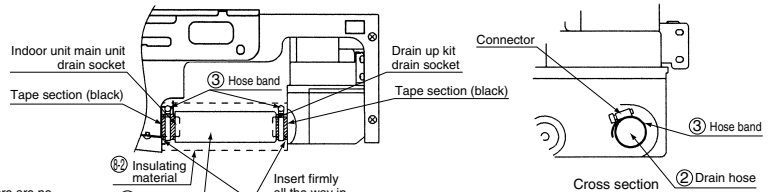
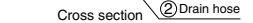

Figure 14
Figure 15
- (4) Connect the indoor unit drain socket and the drain up kit drain socket with the attached drain hose ② inserting it all the way in, and wrap it firmly with the hose band ③ within the area designated by the black tape on the hose end. Make sure the hose band connector comes to the top, as in (Figure 15). (Figure 14)